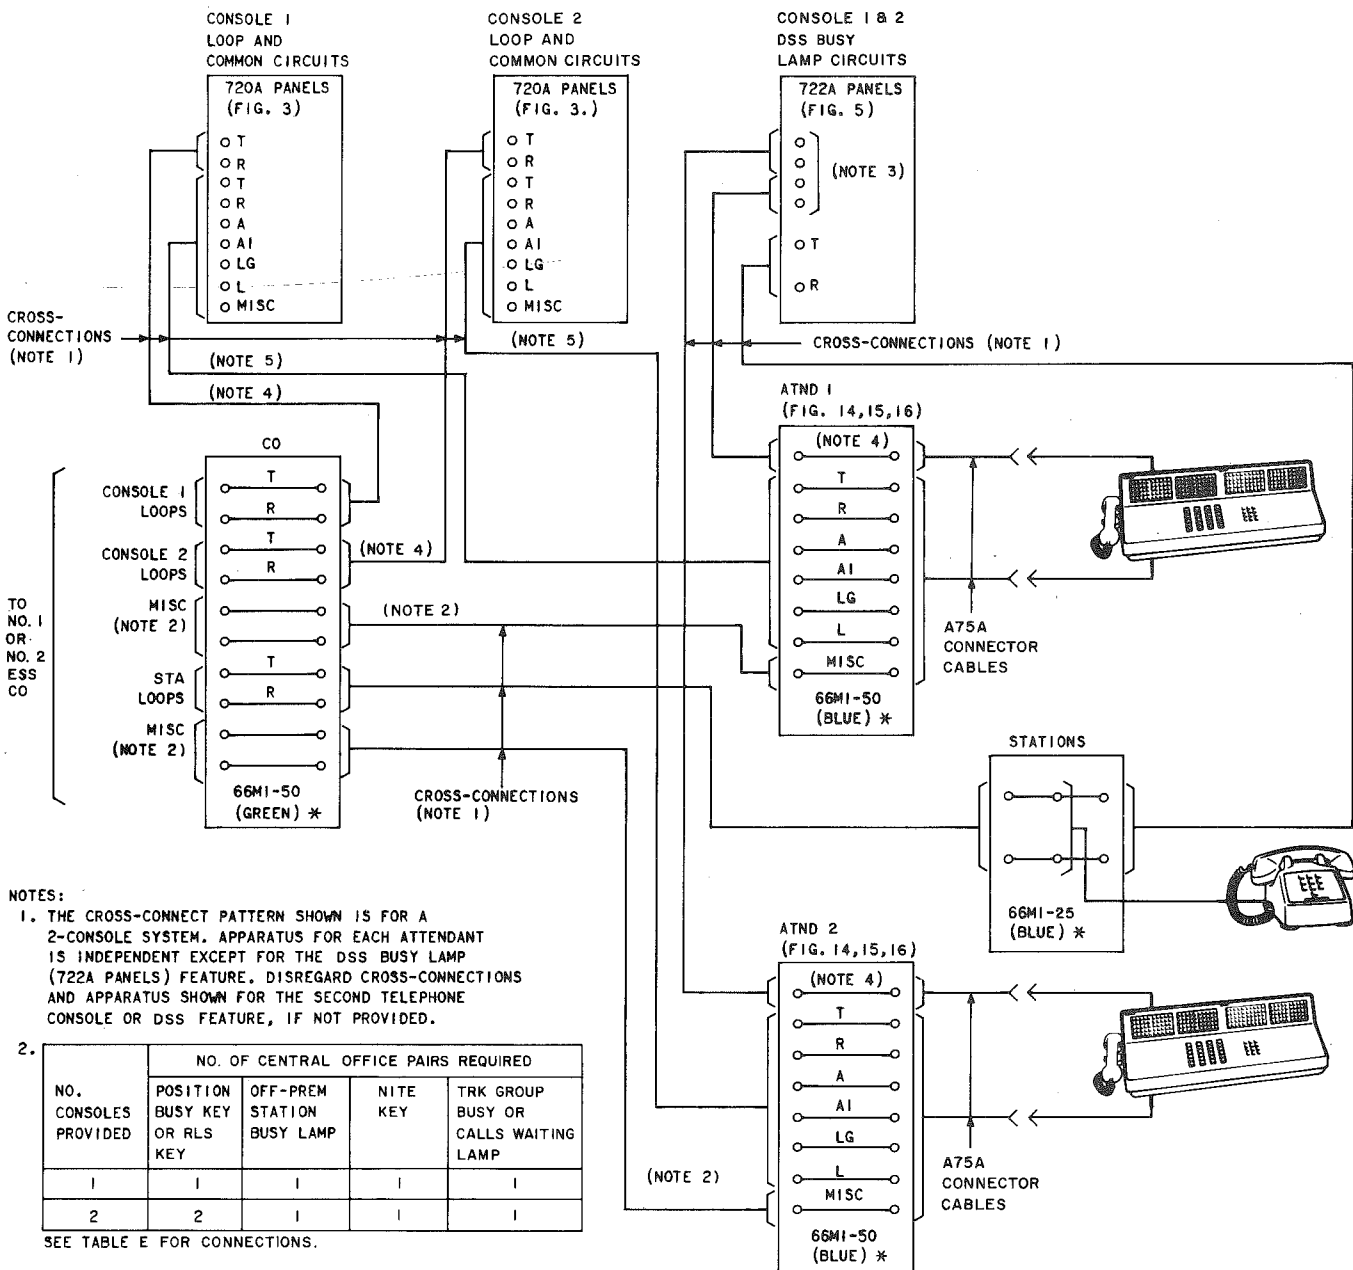

Fig. 12—Typical Panel and Cabling Block Diagram
3.02 The equipment and cabling layout can vary with each installation. Use the panel and cabling block diagram shown in Fig. 12 as a guide.